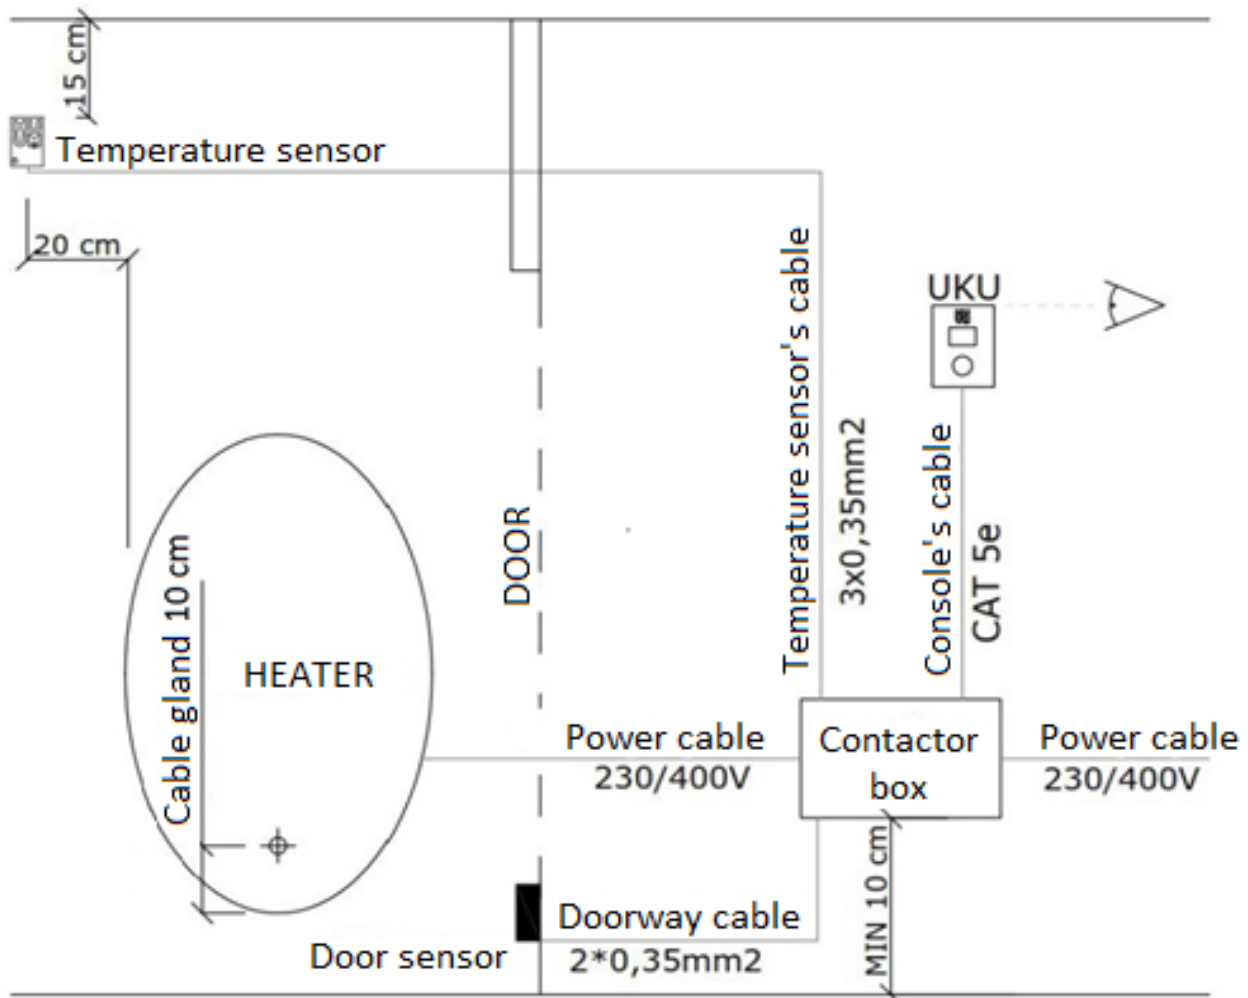

Figure 1
Measure the lengths of the cables and determine the locations of the cables and the parts of the device (Figure 1).
2. Attach the back cover to the wall so that the upper edge of the control panel is at eye level. (Figure 1)
2. Secure it with screws at least 10 cm from the floor to a wall of a dry room. (Figure 1) You cannot attach the contactor box to ceilings or inclined surfaces – working in those positions damages the contactor.
9. Screw the temperature sensor onto the wall. The device cannot be placed above the heater. It must be installed 20 cm from the edge of the heater and 15 cm from the ceiling of the sauna room. (Figure 1)